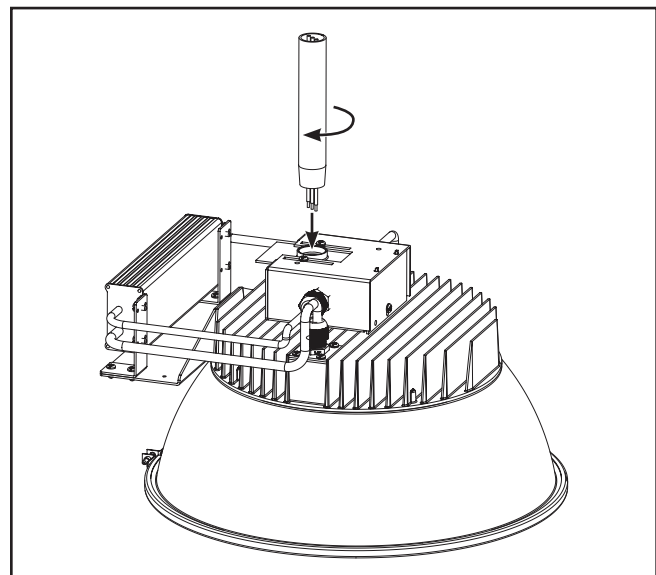

Figure 7.
- 3. Feed incoming power wires into junction box through threaded hole on adjustable mounting plate and fully thread pendant stem into thread hole on adjustable mounting plate. (Figure 7)